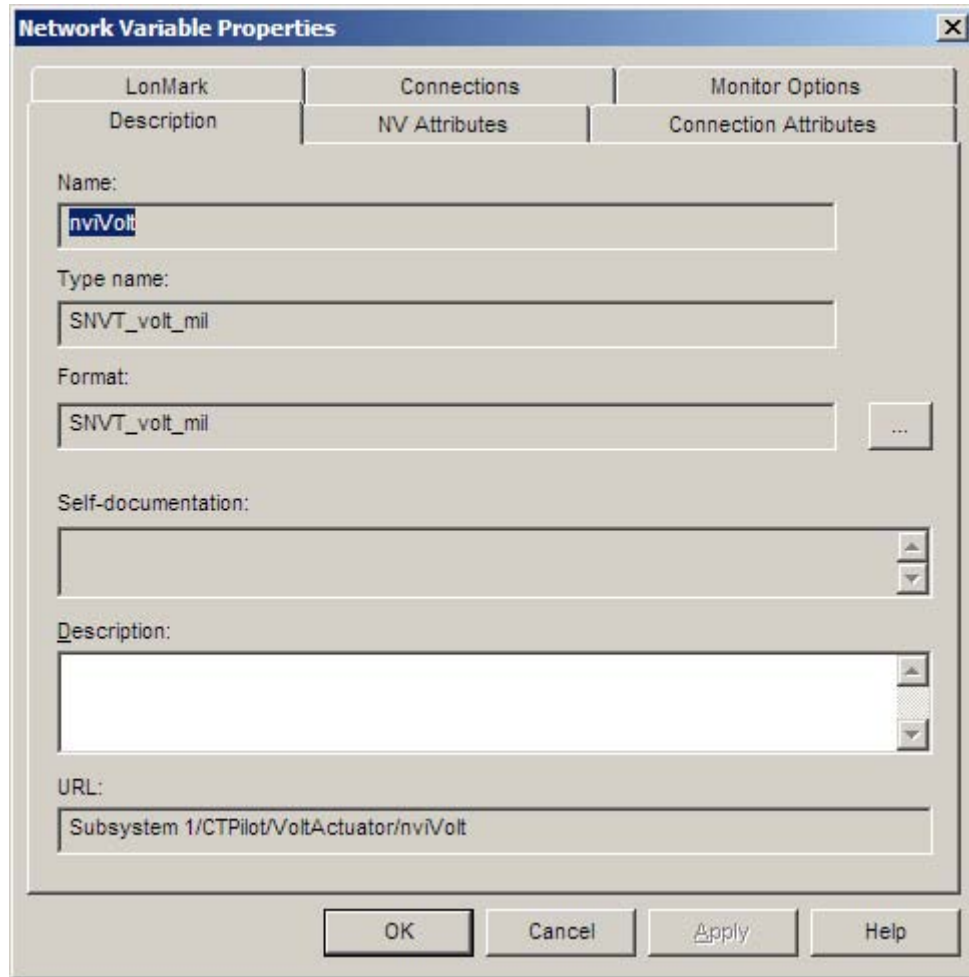

Figure 14. The Network Variable Properties Dialog
3. On the Description page of the Network Variable Properties dialog, the **Type name** field displays the current type for the network variable. The current type should be either **SNVT_volt** or **SNVT_volt_mil**, as shown in **Figure 14** on page 73.